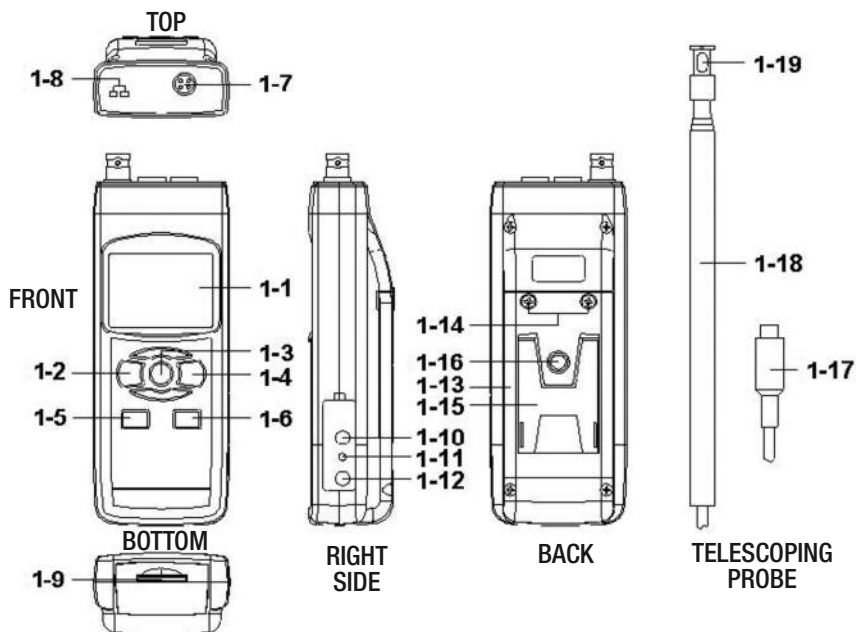

Fig. 1. The HWA4214SD's controls and indicators and other physical features
Figure 1 shows all of the controls and indicators on the front, right side, back, top and bottom of the HWA4214SD. It also shows the main components of the included telescoping probe. Familiarize yourself with the positions and functions of these controls, indicators and connectors before moving on to the setup procedure.
- a. Seat the telescoping probe plug (callout 1-17 of Fig. 1) in its socket (callout 1-7) on the top of the instrument.
4. To measure surface temperature using a thermocouple, make sure the multi-function probe is not in its socket. Plug an optional Type K or Type J thermocouple into its dedicated socket (callout 1-8 of Fig. 1). Then press the FUNC./HOLD/NEXT button until the display shows the term “tP”.